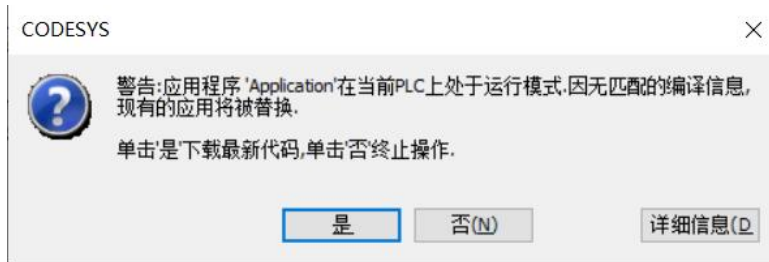

Figure 13-18 Download window
2. A window will pop up, as shown in Figure 13-18, click [Yes], and the PLC program will be overwritten with the latest code.